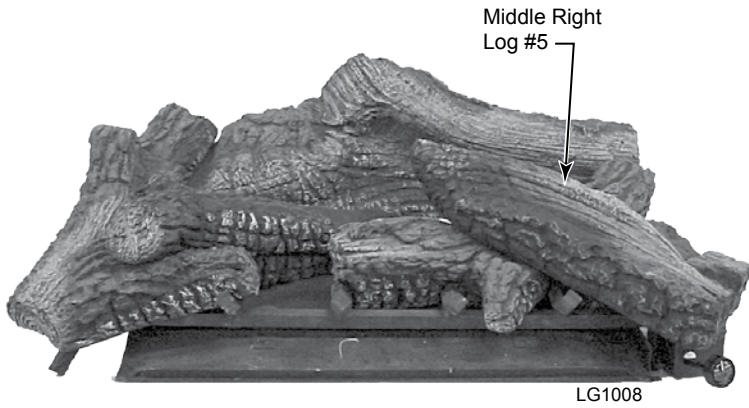

**Figure 47**
2. Place bottom right log (#2) on right side of grate in front of back log. *Figure 47*
3. Place bottom left log (#3) on left side of grate in front of back log. *Figure 47*